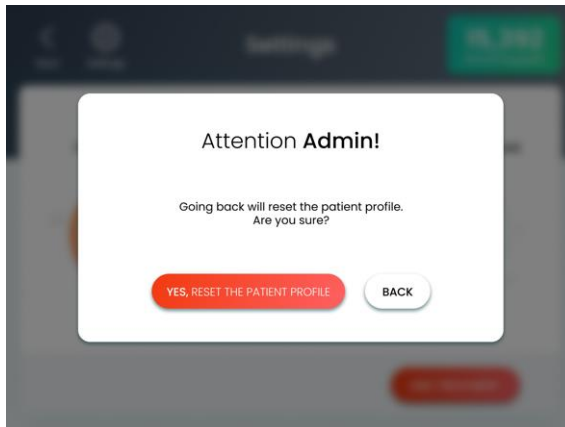

Figure 5-14. Patient Profile Reset Attention Screen
1. From the Treatment screen, press the **Back** button; the Patient Profile Reset Attention screen appears, as shown in Figure 5-14.